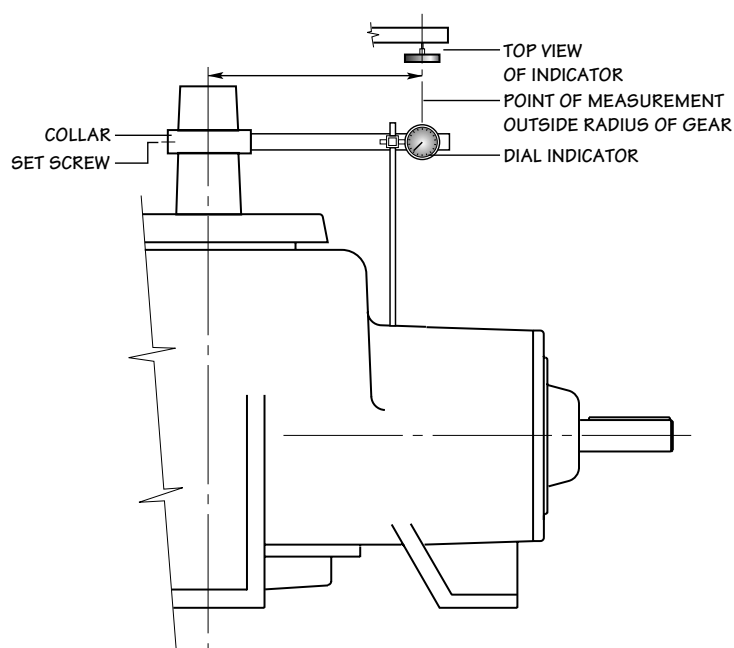

Figure 5 Gear Backlash Measurement
2. With the **X** marked tooth on the pinion gear engaged between the two **X** marked teeth on the ring gear, check the backlash with a dial indicator as shown in **Figure 5**. Lock the pinion shaft against rotation. The amount of movement of the fan shaft, measured at a distance equal to the outside radius of the ring gear is the backlash. Obtain the backlash setting by adjusting the ring gear axially by removing or adding shims (**420**) at the bottom bearing cap.